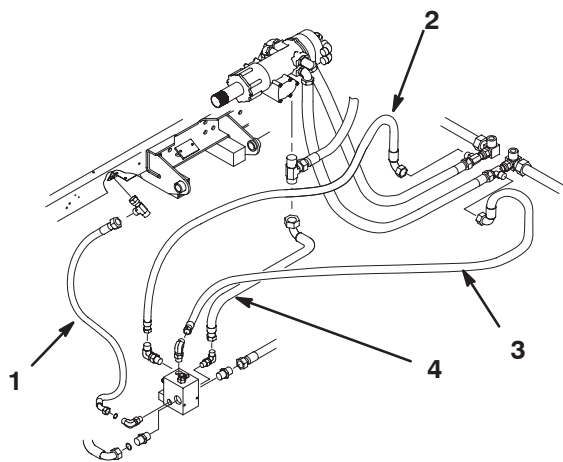
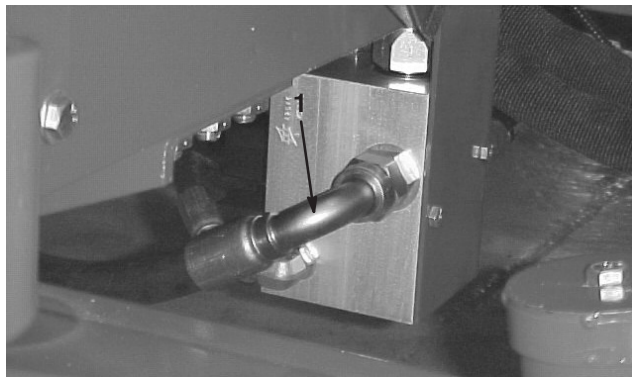

Figure 11
Figure 14
12. Install the remaining hoses positioning as shown in figures 11 thru 13 Use figures 14 –19 for reference during installation.
- Hoses 100–3916 & 100–3917 are connected to the control block and tee fittings (Fig. 11). Remove caps from fittings.